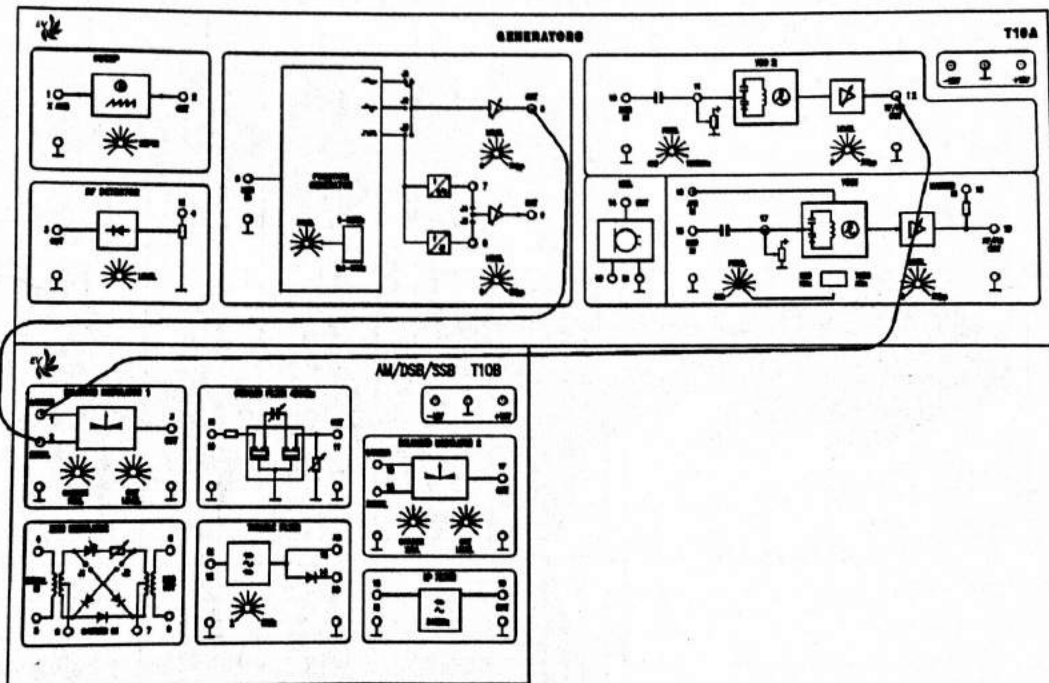

fig. 1.4
1. Carry out the connections between modules T10A and T10B, as indicated in fig.1.4. Power the modules with  $\pm 12$ V and carry out the following presetting: